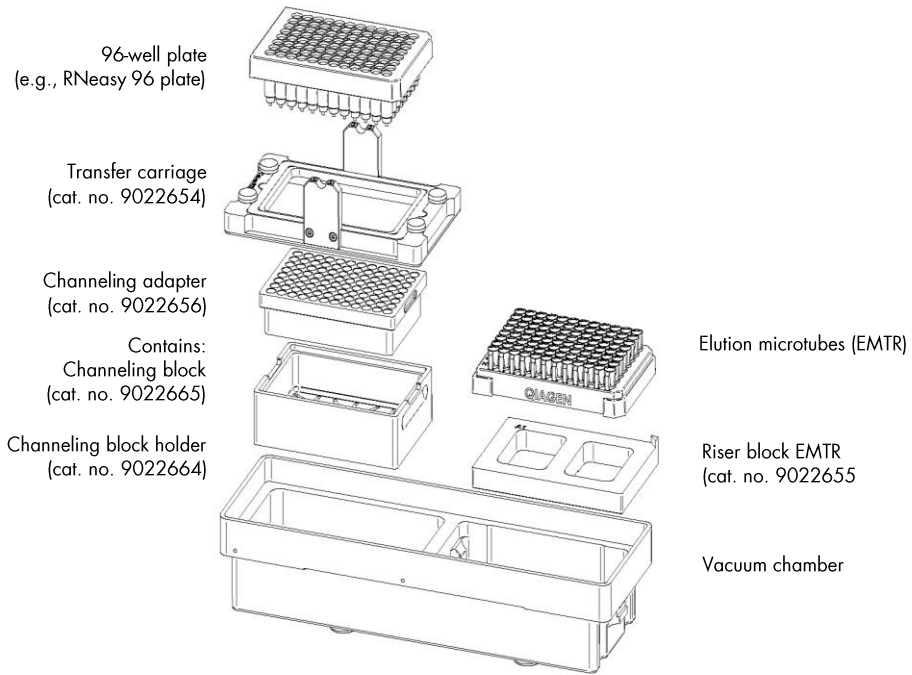

Figure 2. Assembling the vacuum chamber.
Figure 2 illustrates the assembly of the vacuum chamber. For further information, please refer to the *QIAcube HT User Manual*.
17. Prepare the vacuum chamber as shown in Figure 2 on page 22. This assembly is also described in the *QIAcube HT User Manual*.